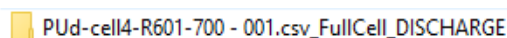

Fig. 8. An example of folder naming based on datasheet name and configurations of parameterisation.
The codes above are to create a new folder under '\Results', so that parameterisation results can be finally saved in the newly created folder. Folder naming follows 2 principles: (1) folder name starts with the name of datasheet. (2) folder name ends with suffixes that indicate important configurations of parameterisation, such as full-cell/cathode/anode, charge/discharge, I-dependence/T-dependence. E.g., let's say the datasheet being parameterised is named 'PUd-cell4-R601-700 – 001.csv', and you use the GUI to configure the parameterisation as full-cell and discharge, without considering any of I- or T-dependence. In this case, you will find parameterisation results under the folder as shown in Fig. 8.